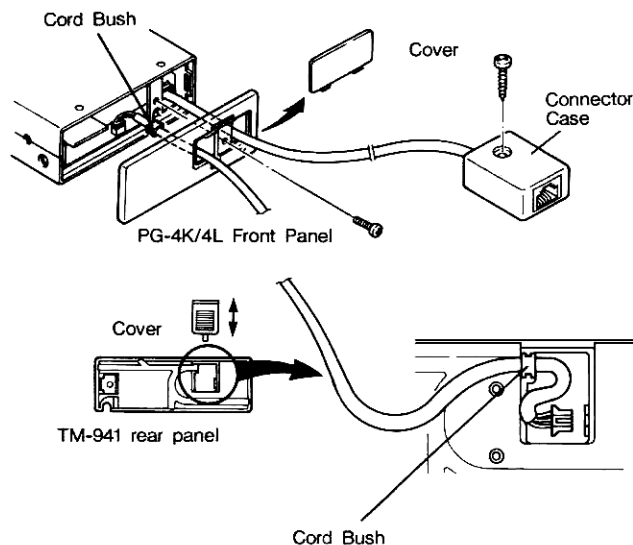
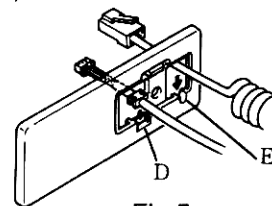

Fig.4
Fig.5
- Remove the cover on the front of the PG-4K/4L front panel, and pass the microphone cable and front panel cable through the opening.(Fig.4)
- Connect the PG-4K/4L microphone cable to the microphone connector. Push the connectors together until they click. (Fig.4)
- Attach the PG-4K/4L front panel to the transceiver with a binding screw and replace the cover. (Fig.4)
- Fit the cord bushing on the panel cable into the front panel (Fig.5-D), fix the panel cable, and install the cover. (Fig.4-A)
- Slide the small cover off of the front panel unit as shown in the accompanying illustration.(Fig.4-B) Gently lift up on the cable near the grommet to disengage it from the front panel. Then gently pull the cable assembly to left to disconnect the white 4 pin connector. Push the white connector on the PG-4K/4L to right into the front panel socket.
Push the grommet down into its slot, and route the cable as desired in the slots on the rear of the front panel. Replace the cover to complete the cabling. (Fig.4-C)